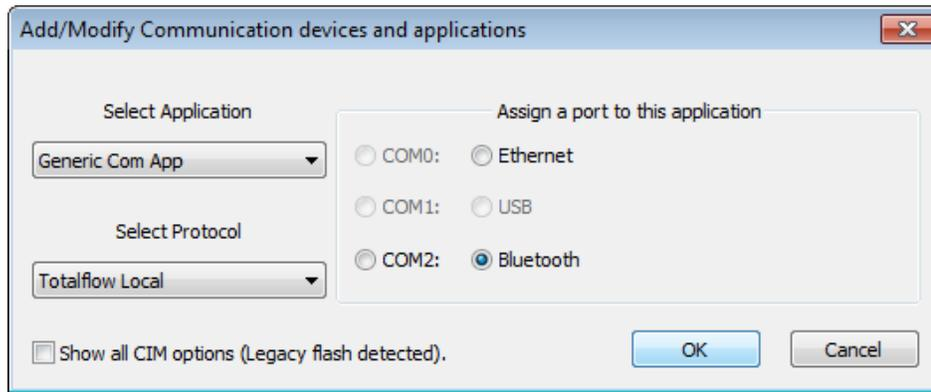

Figure 42: Add/Modify Communication devices and applications dialog box - Bluetooth®
6. The Add/Modify Communication devices and applications dialog box displays (Figure 42).